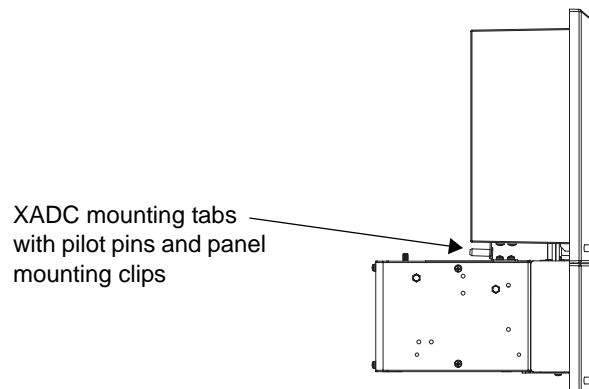

Figure 12 Connecting the XADC and Panel
- Slide the XADC under the panel until the pilot pins on the mounting tabs on the top of the XADC slide in to the corresponding holes on the mounting clips on the bottom of the panel, see Figure 12.